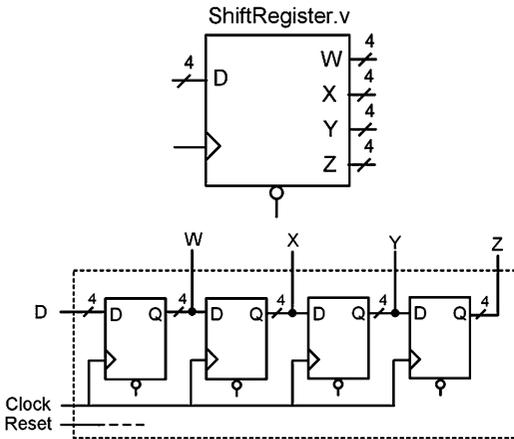

Fig. 5.5
- 5.2.9** Figure 5.5 shows the topology of a *4-bit shift register* when implemented structurally using D-Flip-Flops. Design a Verilog model to